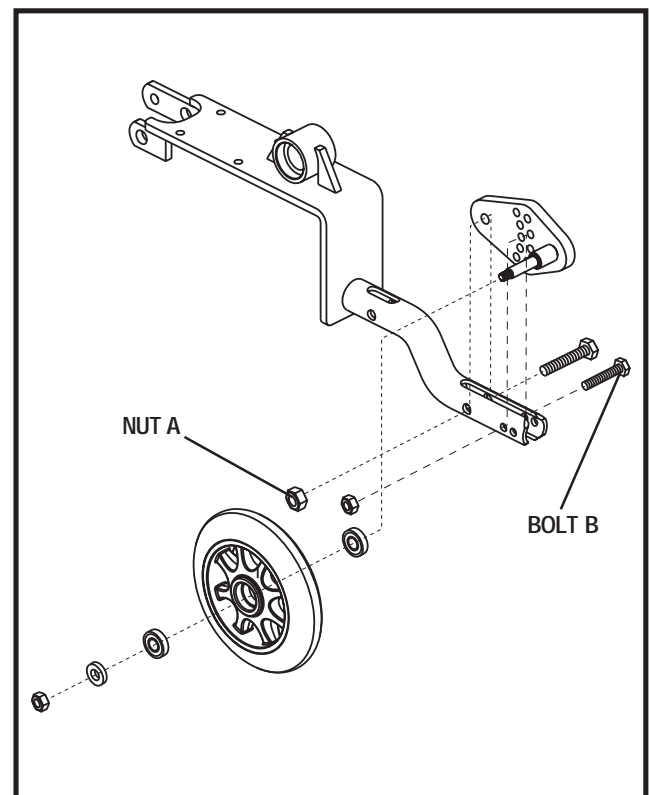

Figure 23. Anti-Tip Wheel Assembly
1. Loosen nut A. See figure 23.